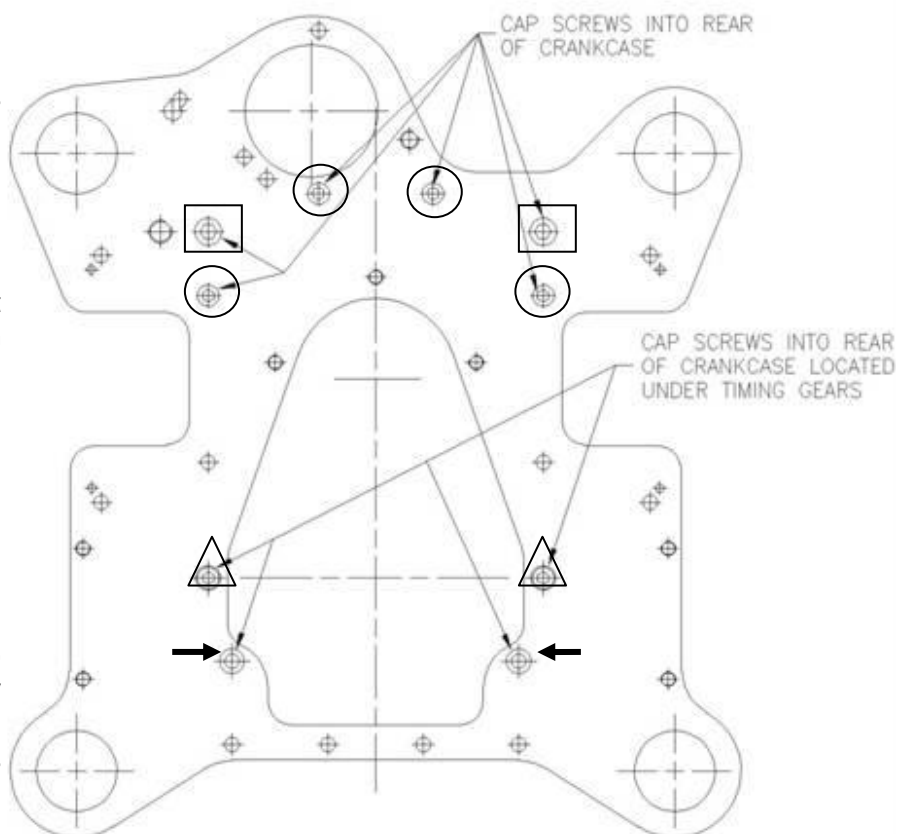

Figure 166 – Engine Mount Plate Screw Locations
- Tighten the screws holding the plate to the crankcases. Note that different sized screws are used on the plate - Figure 166 refers.